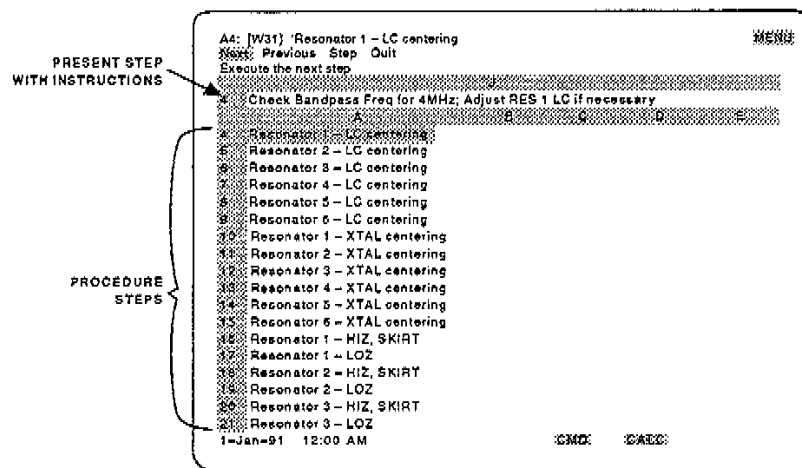
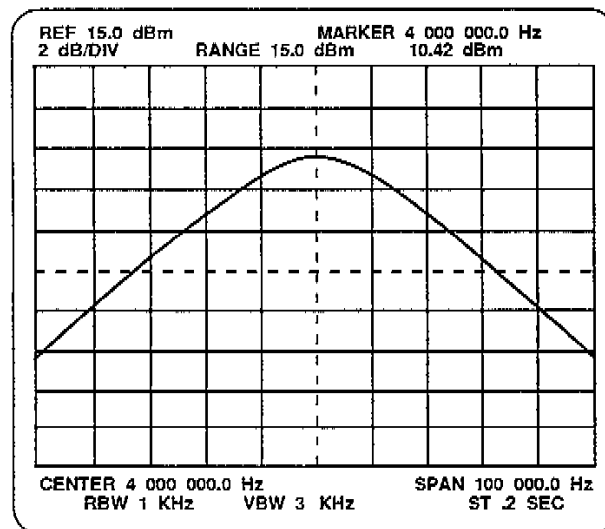

Figure 3-13. VR Adjustment spreadsheet display on the PC.
Figure 3-14. Resonator LC Centering properly adjusted.
2. Using the S(step) command select step number 4 to begin the adjustment procedure. Refer to Figure 3-13.
For the Resonator LC Centering adjustment steps 4 through 9, perform the adjustments indicated in the instruction area of the screen. See Figure 3-13 and Figure 3-14.